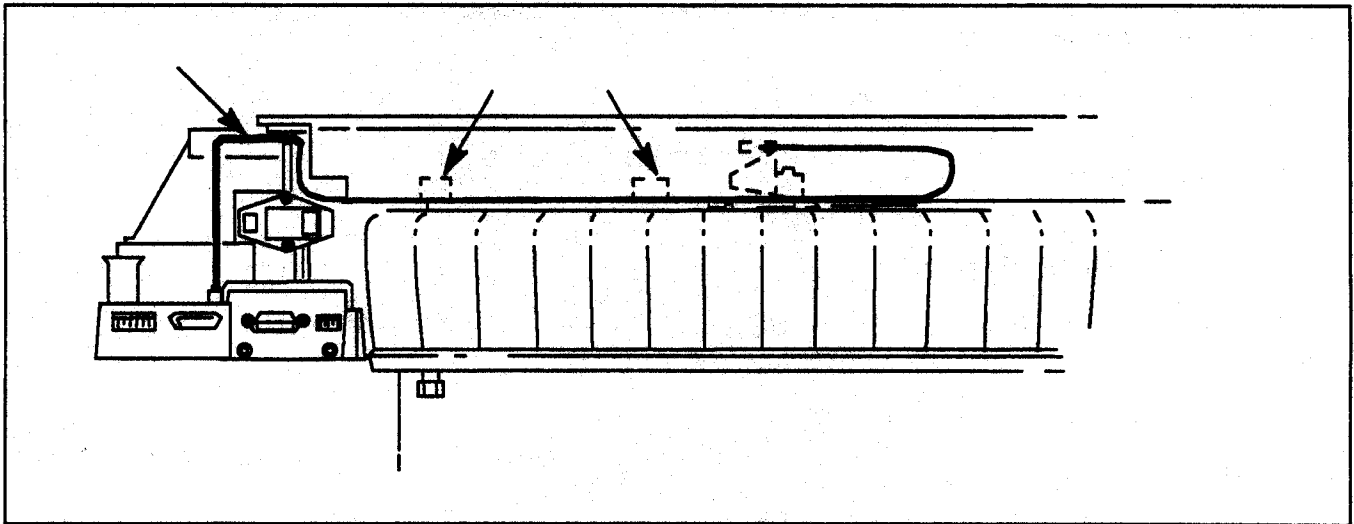

Figure 6-5. Trailing Cable Installation
- b. Route the trailing cable between the slider rod clamp and the slot in the right chassis. See Figure 6-5. When replacing the center cover, ensure that the trailing cable is properly routed between the slider rod clamp and the grounding bracket. Make sure that there are no twists in the trailing cable and position the center cover carefully on the plotter.